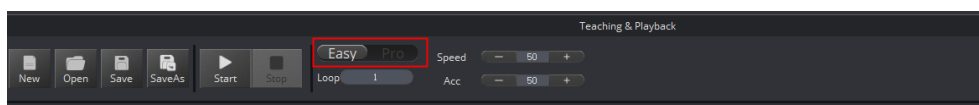

Figure 5.206 Switch advanced function
Step 1 Click  icon on the **Teaching&Playback** page, as shown in Figure 5.206.